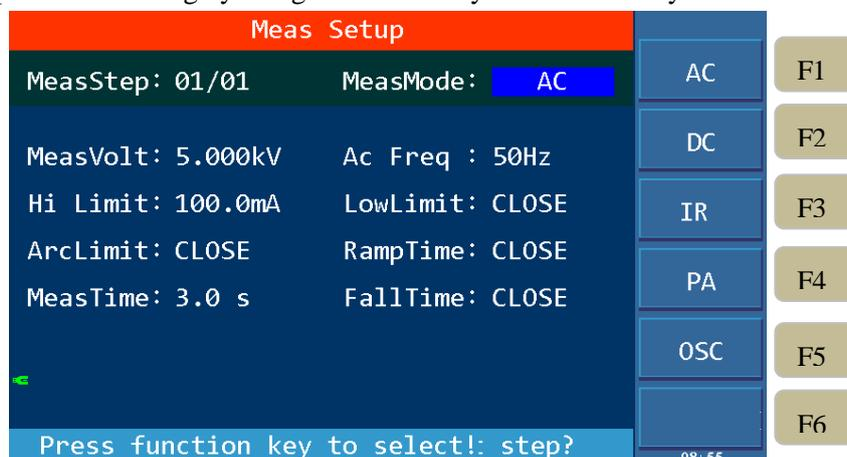

Figure 4-11 Meas Setup
1. Press `[[SETUP]]` to enter the measurement setup interface shown in Figure 4-11.